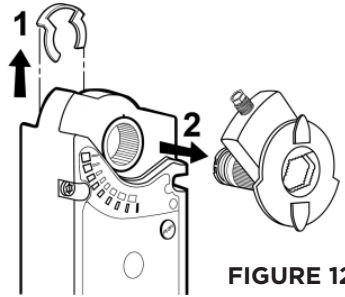

FIGURE 12
2. Remove the clip and shaft adapter from the actuator. See Figure 12.